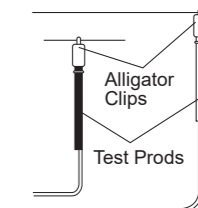

Fig.2
- Turn on power to the circuit to be measured and read the voltage on the Instrument. Refer to the Fig.2.